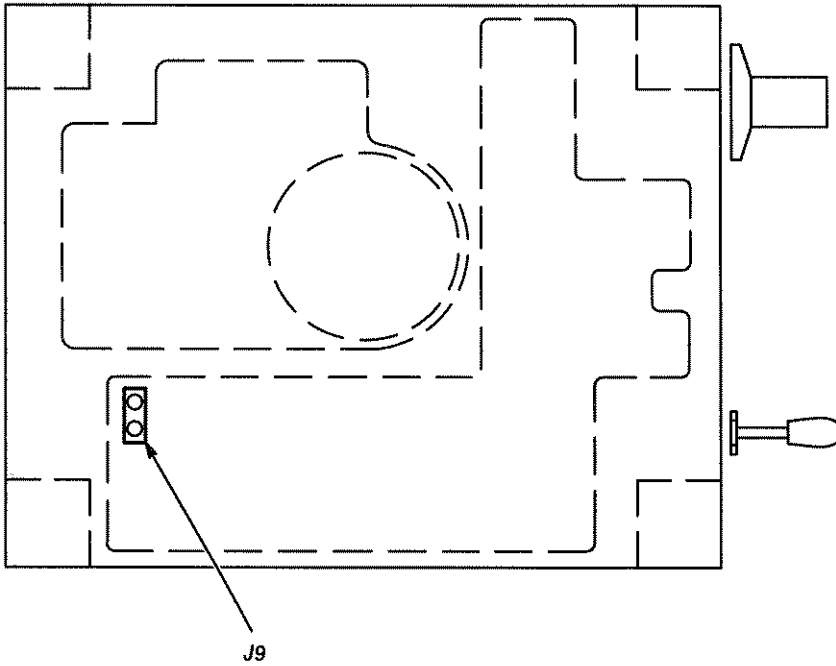

Figure 10: J9 Jumper Location
- Step 4:** Use Figure 10 to locate the two-pin jumper labelled **J9** on the circuit board. The jumper is a small plastic connector with no wires coming out from it. Its purpose is to connect two pins.